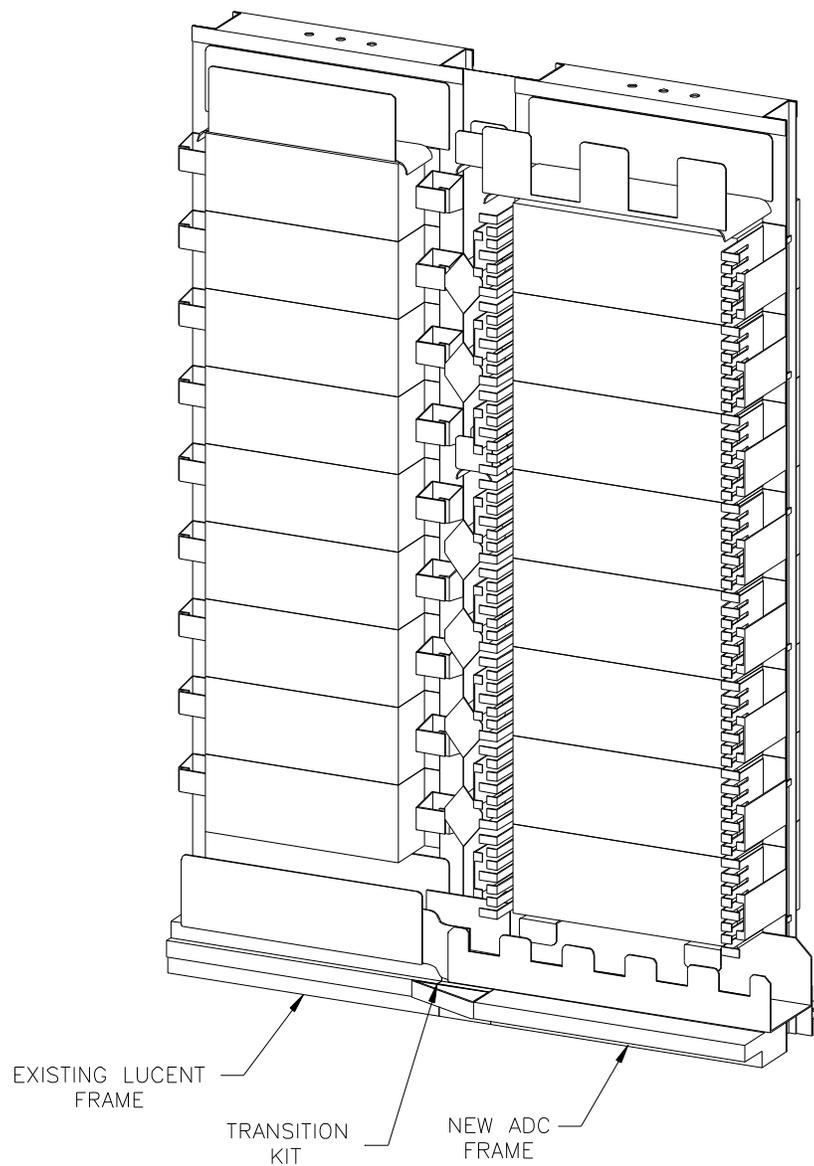

Figure 9-2. Transition from Lucent LGX to ADC 15” FDF
9.2.3 An ADC Transition Kit is needed when transitioning between a Lucent frame (old) and an ADC (new) 15" FP Fiber Distribution Frame (See Figure 9-2).